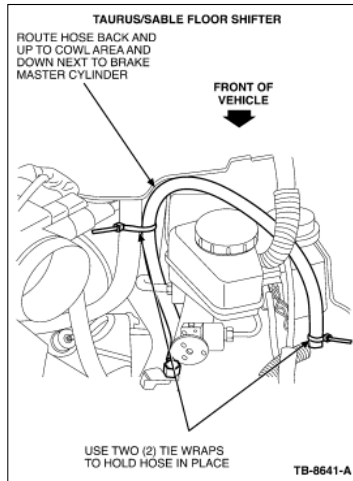

Figure 7 - Article 06-18-13
- Taurus with floor shifter (Figure 7)